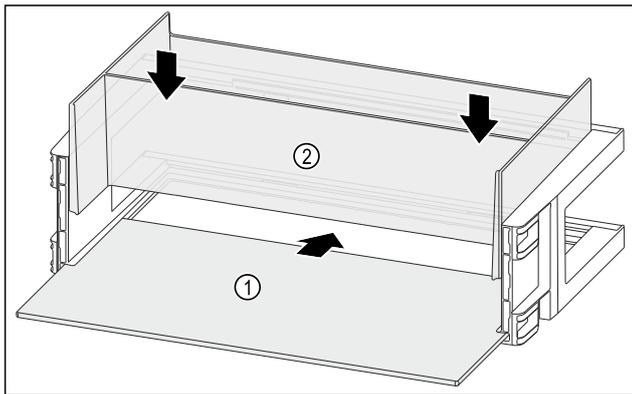

Fig. 117
- ▶ Push the shelf Fig. 117 (1) into the side recesses.
- ▶ Insert the organiser Fig. 117 (2).